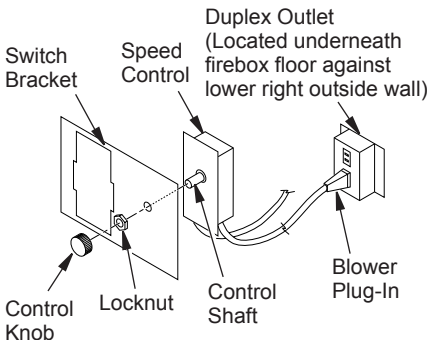

Figure 27 - Attaching Speed Control to Firebox
5. Mount speed control box to switch bracket by placing plastic control shaft forward through opening in switch bracket (see Figure 27).
- Mount speed control box against mounting plate provided in lower fireplace cavity by placing plastic control shaft forward through round hole (see Figure 27, page 18).
- While supporting speed control, secure control shaft with lock nut by pushing and turning lock nut with pliers clockwise until it is tight against mounting plate. Place control knob provided on shaft (see Figure 27, page 18).